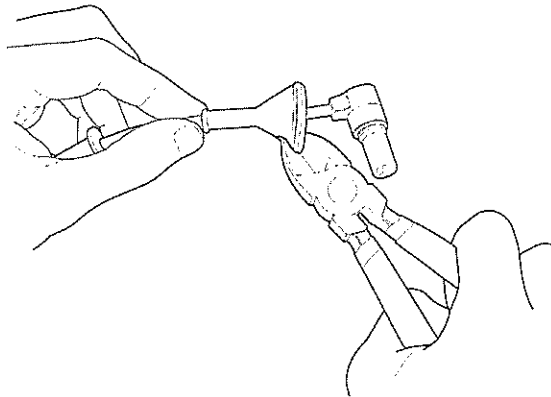

Fig 29 Removing surplus sensor cable grommet
- 81.7. Prior to fitting new sensor, remove the rubber grommet closest to the sensor by carefully cutting it from the sensor cable (Fig 29).